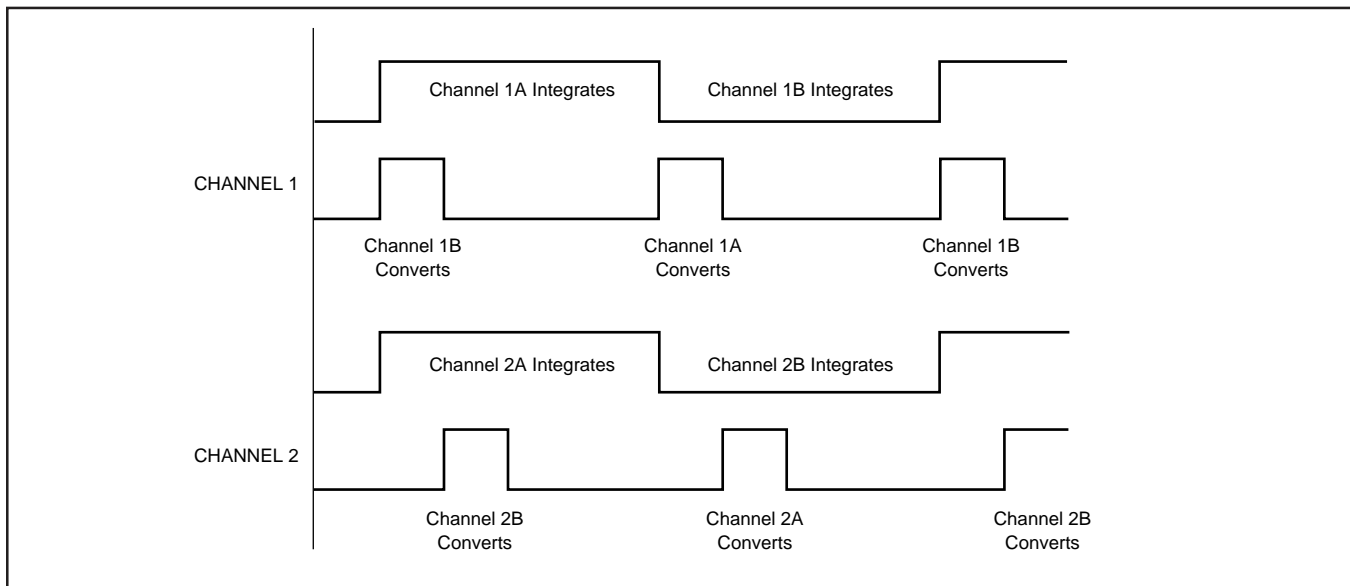

FIGURE 7. Integration/Conversion Timing of a Dual DDC112 A/D Converter.
The DDC112 continuously integrates the input signal by incorporating one dual integrator (A and B) per input channel. The output of the dual integrators are multiplexed into the A/D converter. In operation, one side of each input integrates the input charge, while the other side is being converted by the delta-sigma A/D converter and reset. This operation is shown in Figure 7. Another unique feature of the DDC112 is the option of external integrating capacitors. This options allows a user-programmable full-scale range. On the DEM-DDC112U-C evaluation fixture, sockets are provided on the DUT board (E13 - E20) to allow for easy insertion of these optional capacitors.
The DDC112 integrates on one side of the dual switched integrator while it digitizes the other side (as illustrated in Figure 7). In the event that the integration time is less than the amount of time required to digitize Channel 1 and Channel 2, the DDC112 will change to a non-continuous mode. In this mode, the integration is not continuous and the device will appear to skip integrations. The limiting factor in these situations will be the time it takes to digitize the signals (Channel 1 and Channel 2).
**Timing**—There are two items that can be programmed in this menu. The DDC112 integration time can be programmed to one tenth of a micro second. This timing refers to the integration time required for one half of a complete, side A plus side B conversion. If the time that is programmed in this screen is less than the amount of time that is required to digitize the opposite two channels (per Figure 7), the demonstration fixture will automatically switch into a non-continuous mode. Refer to the product data sheet for details about the DDC112 operation for continuous versus non-continuous modes.